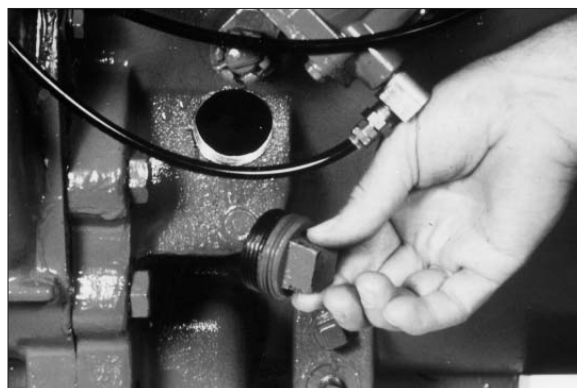

Fig. 22
1. Remove the filler plug from the transmission and add recommended transmission lubricant to the level prescribed by the transmission or truck manufacturer (Fig. 22).